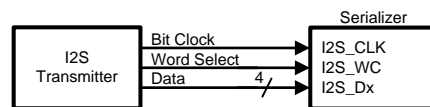
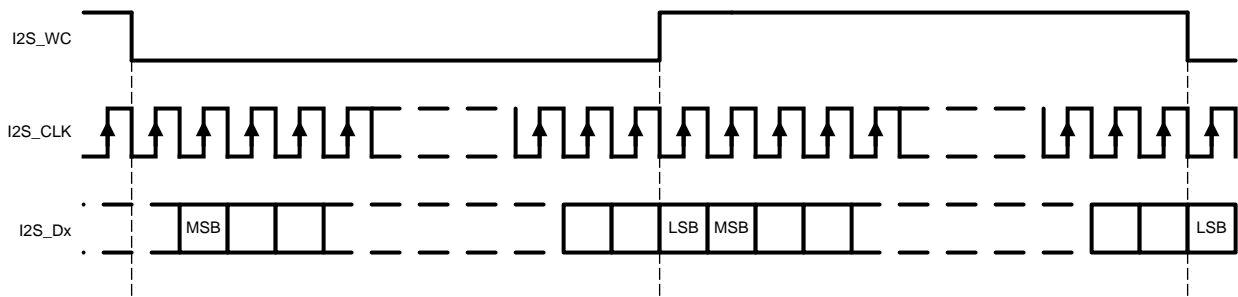

Figure 21. I2S Connection Diagram
Figure 22. I2S Frame Timing Diagram
The DS90UH947-Q1 serializer features six I2S input pins that, when paired with a compatible deserializer, supports 7.1 High-Definition (HD) Surround Sound audio applications. The bit clock (I2S_CLK) supports frequencies between 1MHz and the lesser of CLK/2 or 13MHz. Four I2S data inputs transport two channels of I2S-formatted digital audio each, with each channel delineated by the word select (I2S_WC) input. Refer to Figure 21 and Figure 22 for I2S connection diagram and timing information.